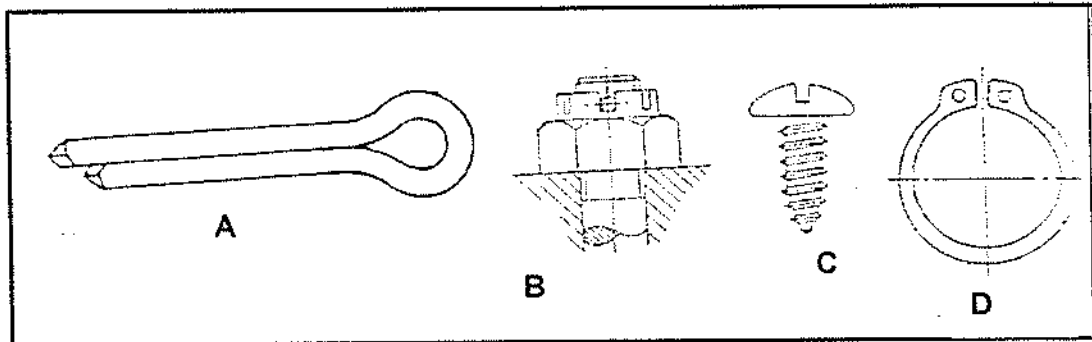

FIGURE 3
3.5 Write the letters (A–D) in FIGURE 3 in the ANSWER BOOK, identify and write the correct screw thread fastener next to each letter. (4)